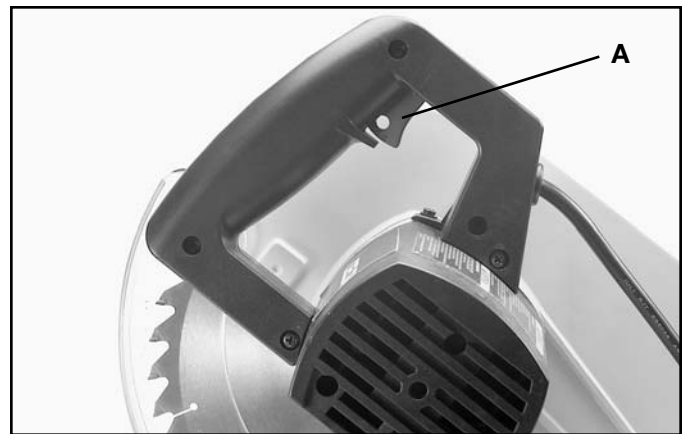
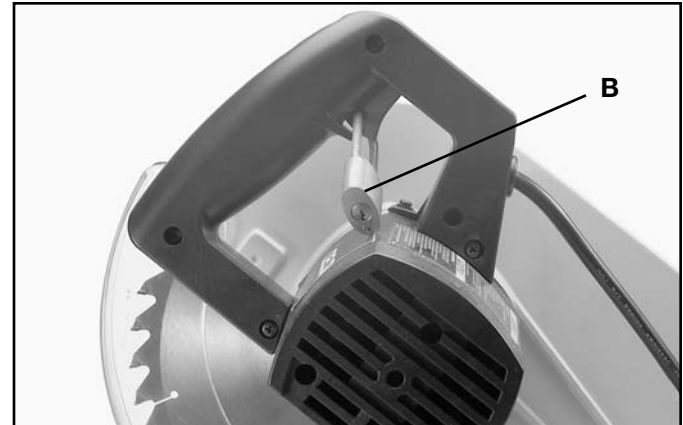

Fig. 12
Fig. 13
To start the machine, depress switch trigger (A) Fig. 12. To stop the machine, release the switch trigger.
This miter saw is equipped with an automatic electric blade brake. As soon as the switch trigger (A) Fig. 12, is released, the electric brake is activated and stops the blade in seconds.
⚠ WARNING: A TURNING SAW BLADE CAN BE HAZARDOUS. AFTER COMPLETING CUT, RELEASE SWITCH TRIGGER (A) FIG. 12, TO ACTIVATE BLADE BRAKE. KEEP CUTTINGHEAD DOWN UNTIL BLADE HAS COME TO A COMPLETE STOP.
IMPORTANT: When the miter saw is not in use, the switch should be locked in the "OFF" position using a padlock (B) Fig. 13, (with 3/16" diameter shackle) through the two holes (A) Fig. 12 in the switch plate, as shown in (A) Fig. 12. NOTE: Padlock shown is available as accessory Model 50-325.